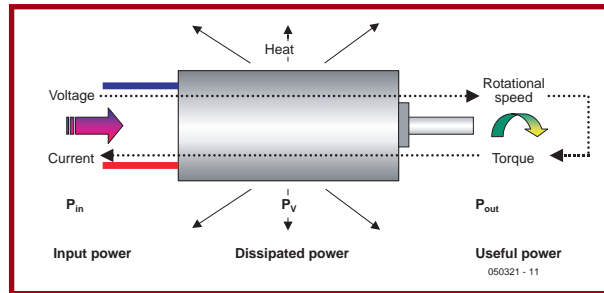

Figure 1.
The electric motor is a transducer which converts electric power (P_{in}), the product of voltage (U) and current (I), into mechanical power (P_{out}), which can be calculated by multiplying angular velocity (ω) by torque (τ). The efficiency (η) is calculated as the ratio between the output power and the input power. Power loss is the difference between the input power and the output power (Figure 1); this power is not strictly 'lost', but rather converted into heat. This dissipated heat warms the internals of the motor, which reduces its efficiency further as the resistance of the copper increases. Ultimately this can lead to overload and thermal failure: with temperature sensitive magnetic materials this can occur at between 120 °C and 150 °C. Good efficiency is of fundamental importance to electric motors, not just in the interest of better use of energy, but also in the interest of longer operating life. Two motors of equal size, one with an efficiency of 80 % and one with an efficiency of 90 %, although differing in efficiency by 'only' 10 %, differ in power dissipation by 50 %. The maximum power that can be converted by an electric motor is also chiefly dependent on its efficiency. Forced cooling systems, such as built-in fans, can of course be added, but these make the motor more complicated. They also consume power even when they are not actually needed, such as under